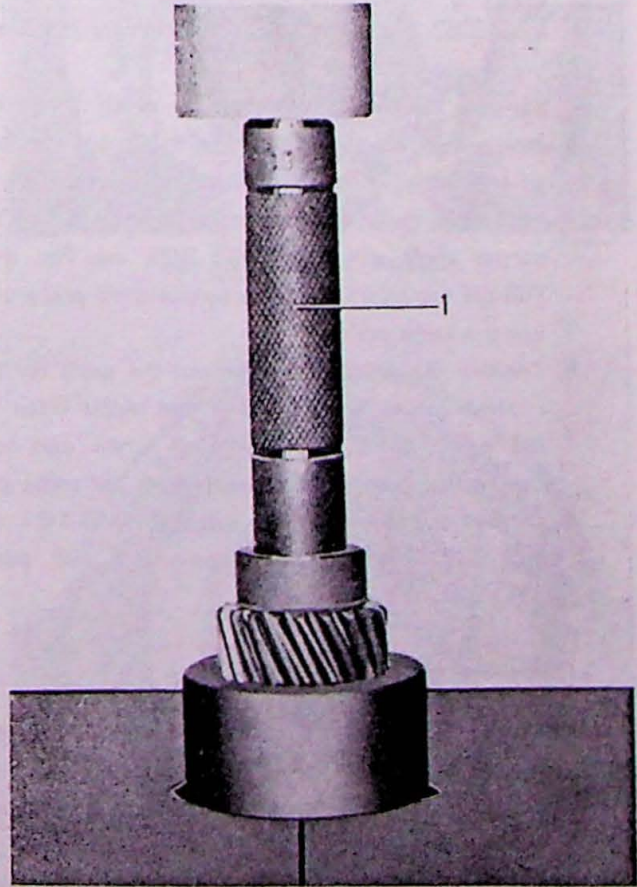
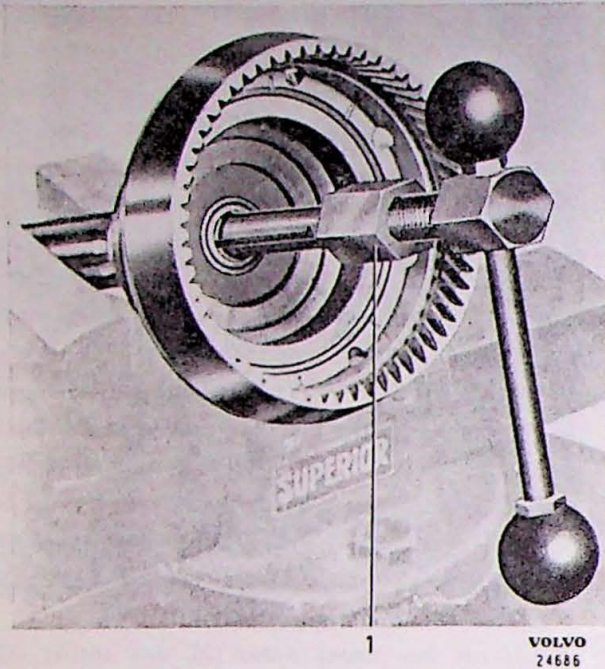

Fig. 3-45. Removing needle bearing in planet wheel
Fig. 3-46. Removing needle bearing, output shaft
- The needle bearings in the planet wheels can be pressed out with drift SVO 2417, see Fig. 3-45.
6. Unscrew the bolt and pull out the bushing and small speedometer gear wheel. Unscrew the nut for the coupling (24). Pull off the coupling with puller SVO 2262. Place the housing in a press and press out the output shaft (23).
7. Remove the brass washer (35) which holds the free wheel on the output shaft. Lift out the free wheel parts. Remove the thrust washer (32). If necessary, pull out the needle bearing (31) in the output shaft with tool SVO 2423, see Fig. 3-46. Pull off the bearing on the output shaft preferably using a knife puller.